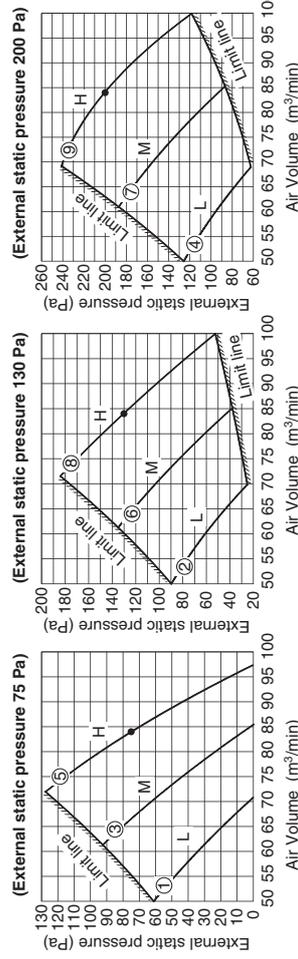

Fig. 10-2
(1) Refer to Tables 10-2, 10-3 and Fig. 10-2 for details on the relationship between the value of item code "5d" and the external static pressure.
(2) When set in group control (connecting multiple indoor units with one timer remote controller), set each indoor unit to item code "5d".
Refer to Fig. 10-2 for the external static pressure setting range.
4. Press the  $\rightarrow$  /  $\leftarrow$  buttons for the time to amend the values for the set data. Refer to Table 10-2 and Fig. 10-2 and select a value "0000", "0003" or "0001".